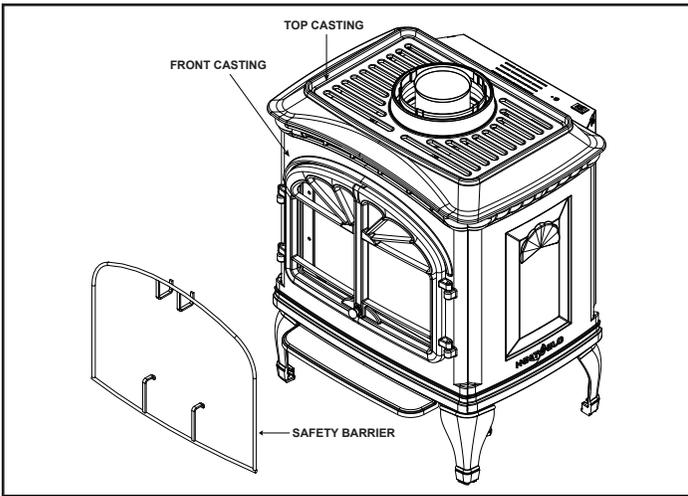

Figure 6.11 - Remove Casting
- Remove front casting, Figure 6.11.